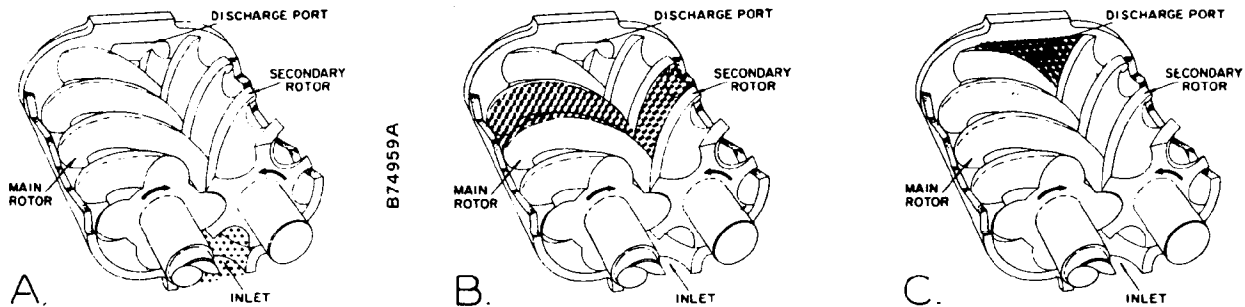

FIGURE 1-1 – COMPRESSOR CYCLE
COMPRESSION PRINCIPLE (FIGURE 1-1) – Compression is accomplished by the main and secondary rotors synchronously meshing in a one-piece cylinder. The main rotor has four (4) helical lobes 90° apart. The secondary rotor has six (6) matching helical grooves 60° apart to allow meshing with main rotor lobes.
The air inlet port is located on top of the compressor cylinder near the drive shaft end. The discharge port is near the bottom at the opposite end of the compressor cylinder. *FIGURE 1-1 is an inverted view to show inlet and discharge ports.* The compression cycle begins as the rotors unmesh at the inlet port and air is drawn into the cavity between the main rotor lobes and the secondary rotor grooves (A). When the rotors pass the inlet port cutoff, air is trapped in the interlobe cavity and flows axially with the meshing rotors (B). As meshing continues, more of the main rotor lobe enters the secondary rotor groove, normal volume is reduced and pressure increases.